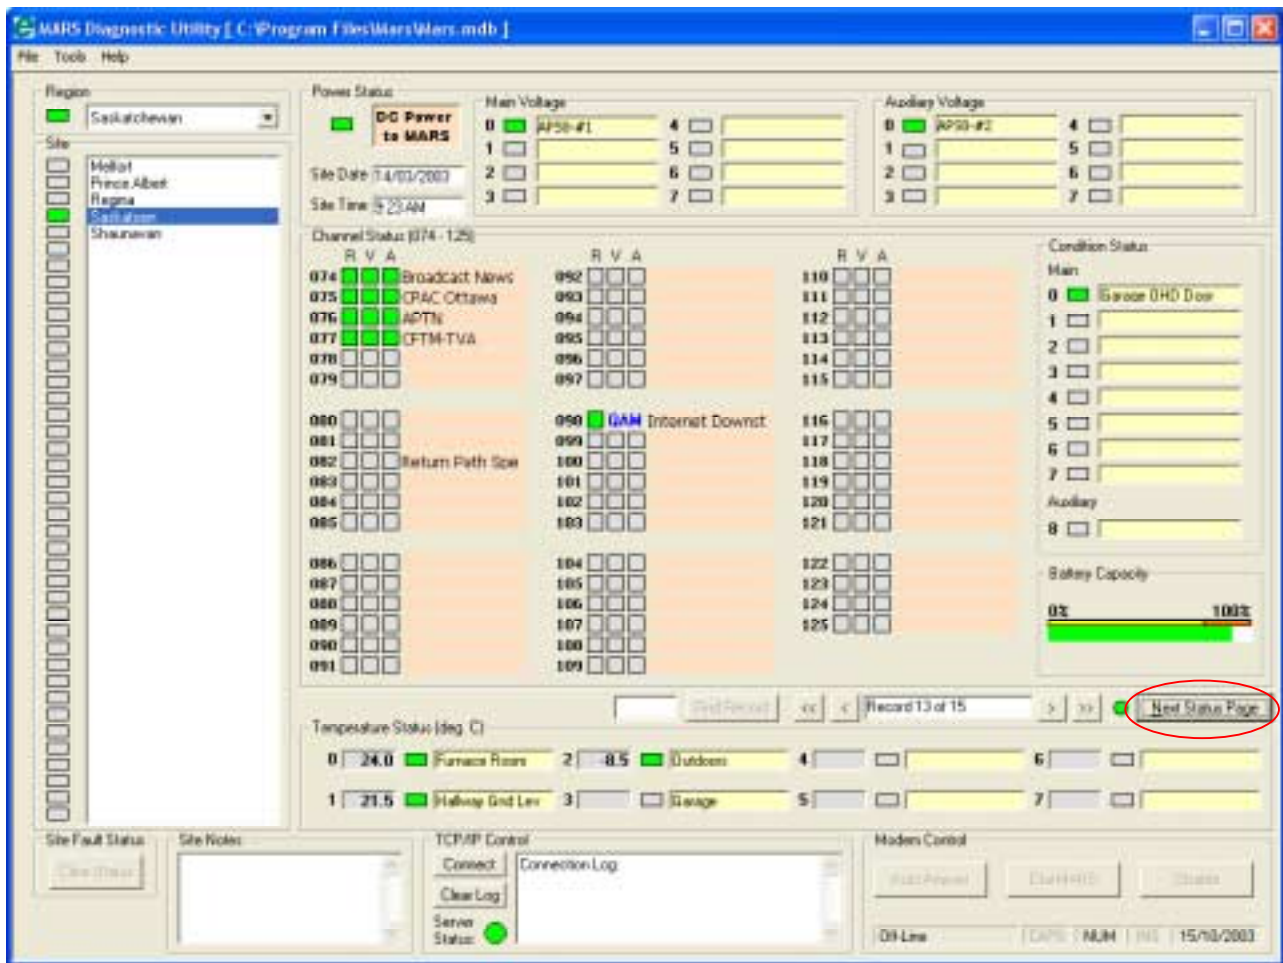

Figure 18: MARS Diagnostic Utility (MDU) main screen ('Second' status page)
- To display the results of the remainder of the channels, select the **Next Status Page** button located near the bottom right side of the Channel Status section (See **Figure 18**, below).